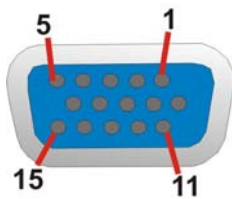

Figure 3-40: VGA Connector
- CN Pinouts:** See **Figure 3-40** and **Table 3-46**